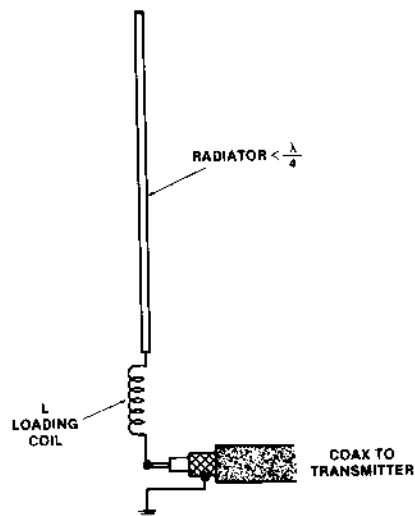

FIG. 20.1. A VERTICAL ANTENNA WITH A RADIATOR LESS THAN A QUARTER WAVELENGTH.
A vertical antenna with a radiator less than a quarter wavelength is usually used for mobile and portable communications. An example of such an antenna is shown in Fig. 20.1. The lack of length in this antenna is made up by inductance (L) placed in series with the radiator. This inductor is used to cancel the capacitive reactance caused by using a radiator that is too short for the resonant frequency. The transmission line center conductor is connected to one end of the inductor, while the transmission line shield is connected either to ground (which could be earth ground or the body of a vehicle depending upon whether operation is mobile or portable) or to a quarter-wave radial. The radial consists of one or more parallel wires connected to the shield. The wires have a length of L (ft) = $246/F$ (MHz).